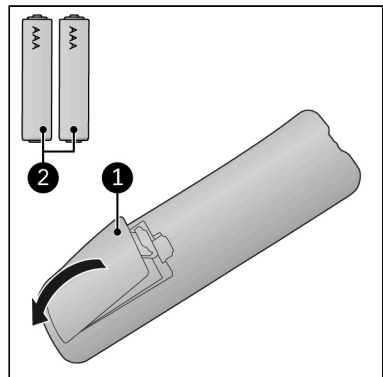

Figure 43.
1. Remove the battery cover (Figure 43, pos. 1).
2. Insert two batteries (AAA 1.5 V) (Figure 43, pos. 2) as indicated in the battery compartment. Make sure to insert the batteries correctly.